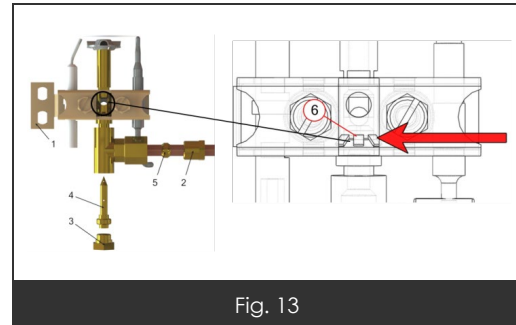

Fig. 13
- Unscrew the pilot light support (Fig. 13 Item 1)
- Unscrew the pilot gas connection (Fig. 13 Item 2)
- Unscrew the nut (Fig. 13 Item 3) in order to change the injector (Fig. 13 Item 4)